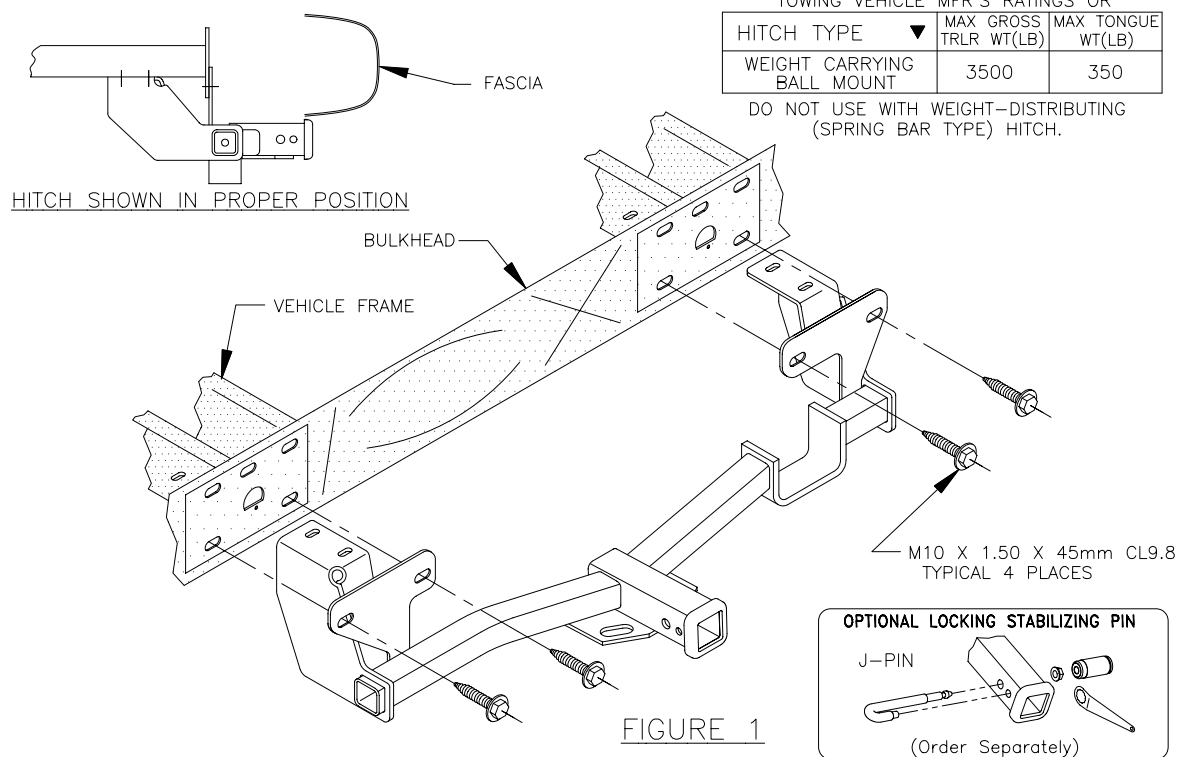

FIGURE 1
- REMOVE (4) BOLTS, EACH SIDE, WHICH ATTACH BLACK IMPACT BAR TO VEHICLE, AND DISCARD.
- RAISE HITCH INTO POSITION AND TEMPORARILY ATTACH TO REAR OF VEHICLE WITH M10 X 1.50 X 45mm BOLTS, PROVIDED WITH HITCH, AS SHOWN IN FIGURE 1. DO NOT TIGHTEN AT THIS TIME.